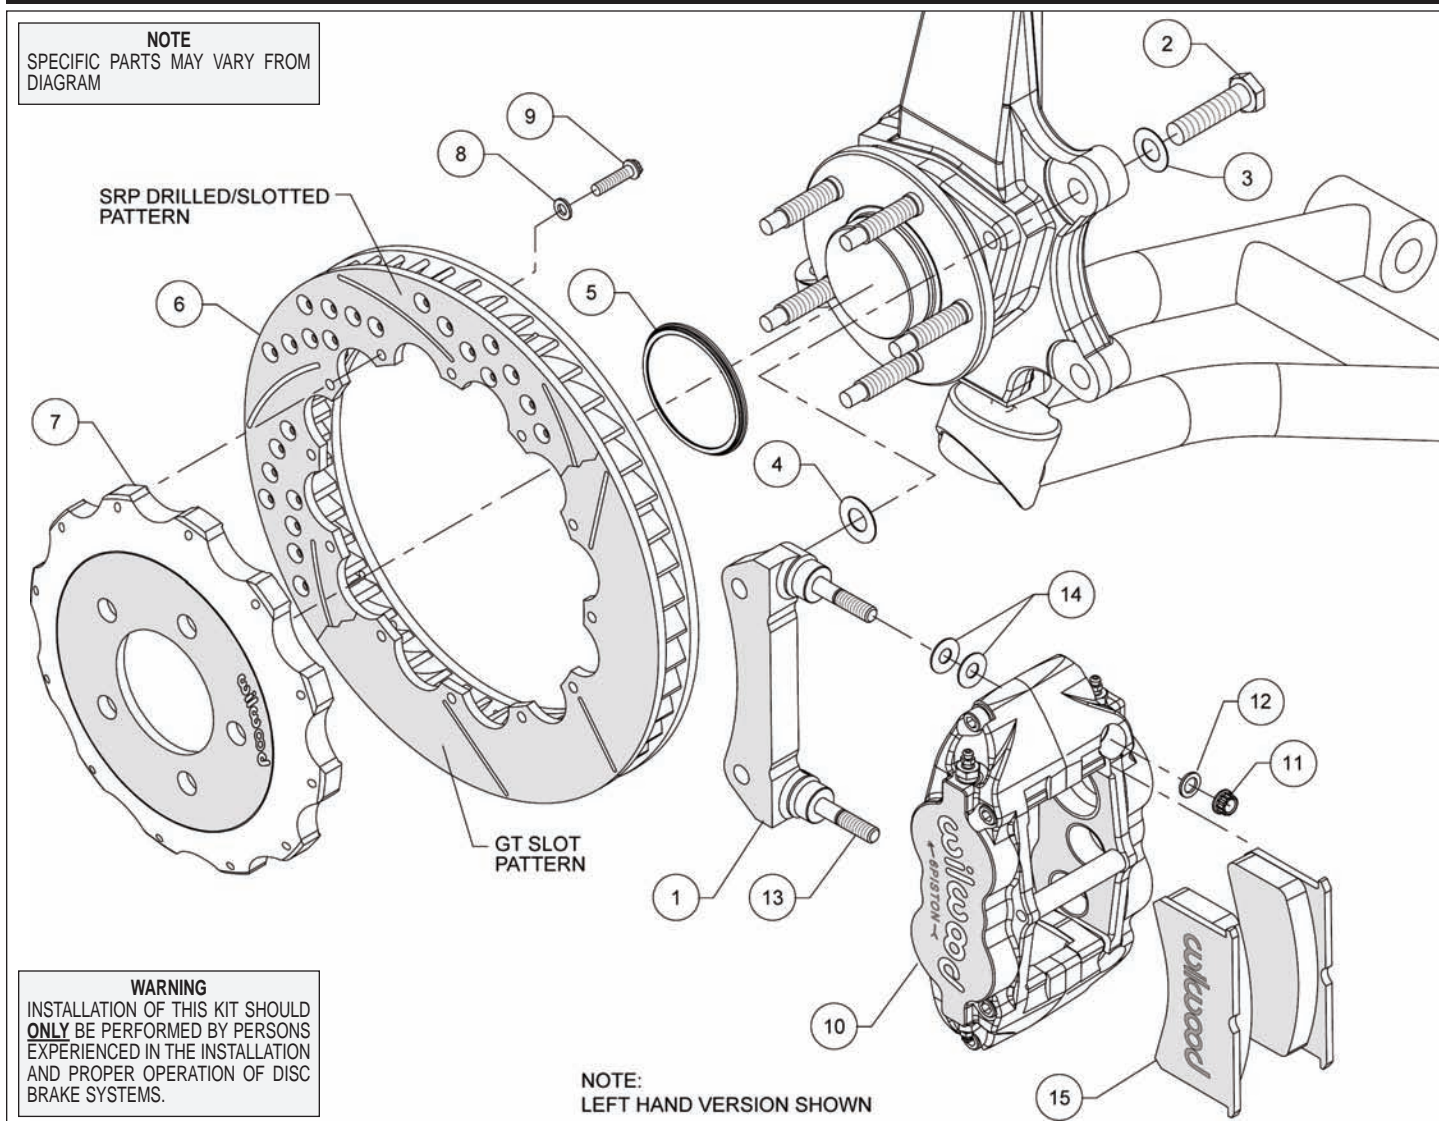
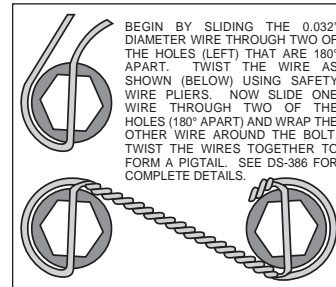

Figure 1. Typical Installation Configuration
Figure 3. Safety Wire Diagram
**Assembly Instructions** (numbers in parenthesis refer to the parts list and Figure 1 on the preceding pages):
- The caliper mount bracket (1) should initially be installed with clean, dry threads on the mounting bolts. Orient the bracket as shown in Figure 1, and install using bolts (2) and washers (3). Initially place one .033 thick shim (4) on each bolt between the bracket and upright, Figure 1. Temporarily tighten the mounting bolts. **NOTE:** *The bracket must fit squarely against the mount bosses on the upright.* Inspect for interference from casting irregularities, machining ridges, burrs, etc. Later, after the caliper alignment has been checked, the mount bolts will be secured using red *Loctite*® 271.
- Orient the rotor (6) and the hat (7) as shown in Figure 1 and Photo 1. Attach rotor to hat using bolts (9) and washers (8). Using an alternating sequence, apply red *Loctite*® 271 to the threads, and torque to 155 **in-lbs**. For an added measure of security, the bolts may be safety wired using standard 0.032 inch diameter stainless steel safety wire as shown in Figure 3. Please refer to Wilwood's data sheet DS-386 (available at [www.wilwood.com/Pdf/DataSheets/ds386.pdf](http://www.wilwood.com/Pdf/DataSheets/ds386.pdf)) for complete safety wire installation instructions.
- Slide the rotor registration adapter (5) onto the axle register on the hub assembly with the smaller O.D. facing outward, Photo 2. Slide the hat/rotor assembly (6/7) onto the hub assembly. **NOTE:** *The hat must fit flush against the hub flange or excessive rotor run out may result.* Install three lug nuts (finger tight) to keep the hat/rotor assembly in place while continuing with the installation.
- NOTE:** *This kit contains distinct right and left hand calipers that must be mounted in a specific direction, as described below.* Lubricate the caliper mounting studs (13) with lightweight oil. Initially place two .035" thick shims (14) on each stud as shown in Figure 1 and Photo 3. Mount the caliper (10) onto the bracket (1) using lock nuts (11) and washers (12), Figure 1. Ensure that the caliper is mounted so that the largest pistons are at the rotor exit end of the caliper, in relation to the direction of rotor rotation. Temporarily tighten the lock nuts and view the rotor through the top opening of the caliper. The rotor should be centered in the caliper, Photo 4. If not, adjust by adding or subtracting shims (4) between the bracket and the upright. Always use the same amount of shims on each of the two mounting bolts. Once the caliper alignment is correct, remove the bracket mounting bolts (2) one at a time, apply red *Loctite*® 271 to the threads, and torque to 77 ft-lb.